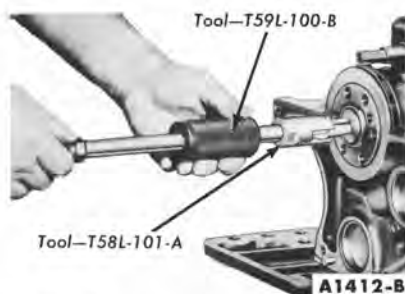

FIG. 81—Clutch Pilot Bushing Removal
8. Remove the flywheel. Remove the clutch pilot bushing (Fig. 81).